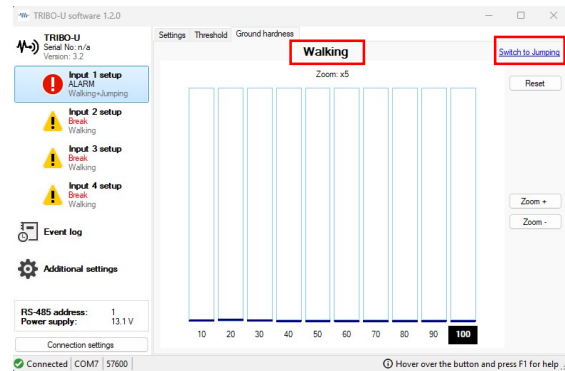

Fig. 29
- Select the desired mode, Walking or Jumping (Fig. 29);